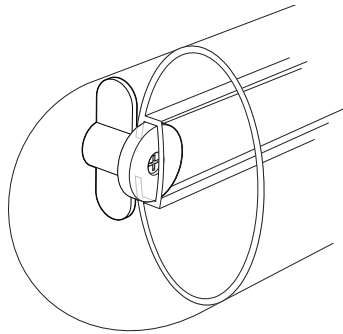

Fig 4.
4. Carefully position the TV55 antenna so that the Cam-locks slide into the channel on the rear of the antenna. See Fig 4.